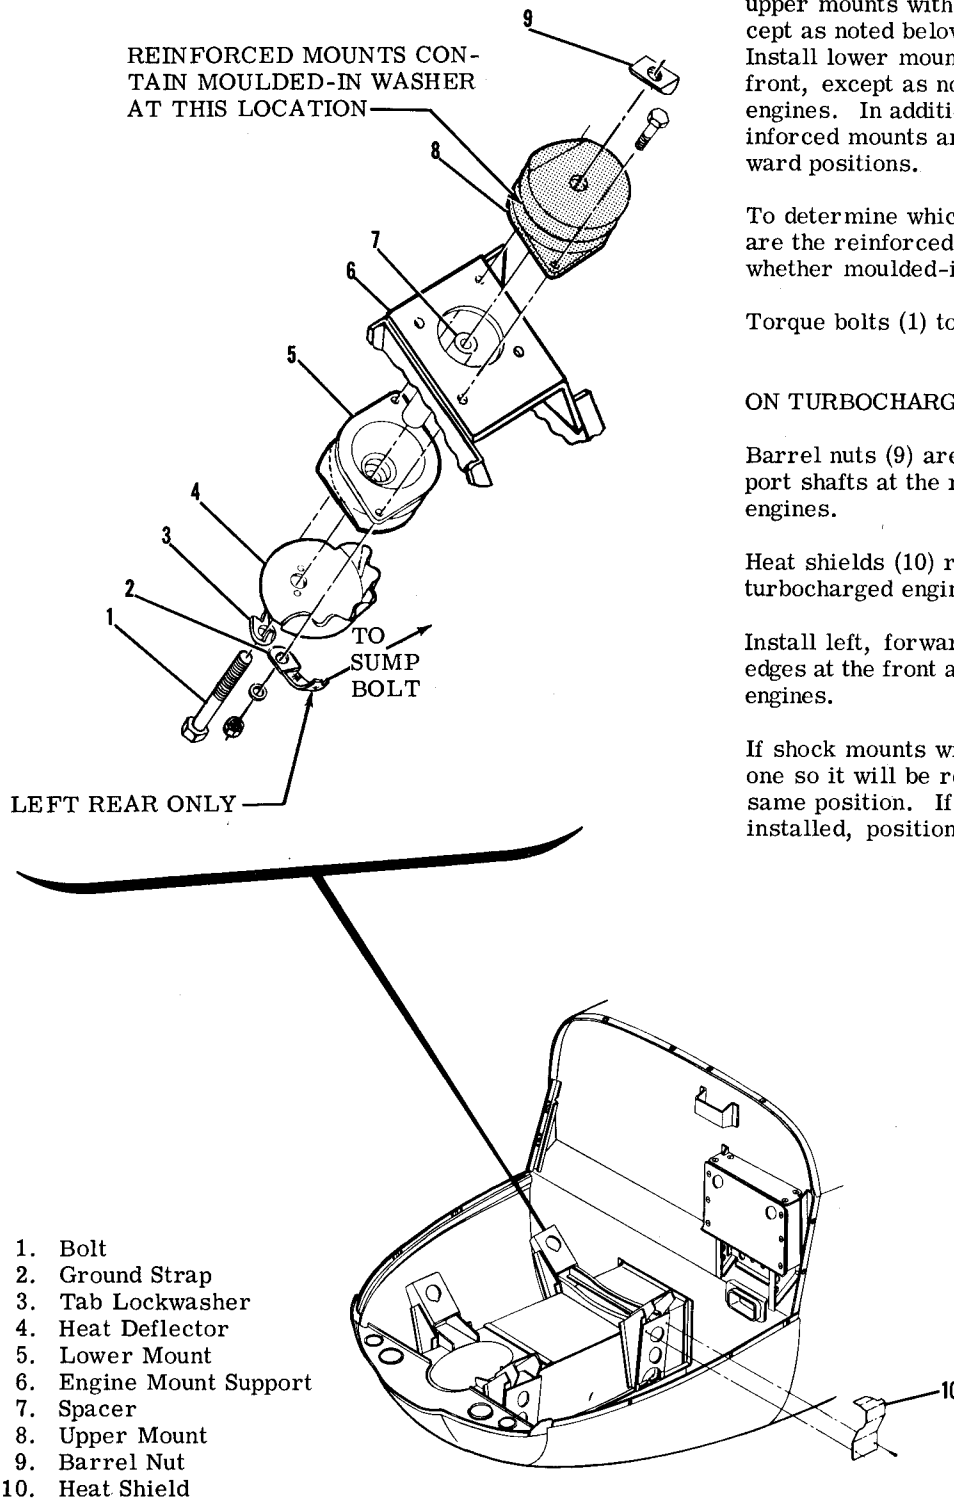

Figure 12-1. Engine Mounts
3. Remove mount pads, spacers, ground strap and pins. Before removing shock mounts, refer to figure 12-1.
1. Install mount pads, spacers, pins, and ground strap on engine mount, positioning the shock mounts as noted in figure 12-1.
3. Torque the engine shock mount bolts to the value shown in figure 12-1. Bend tab washers.